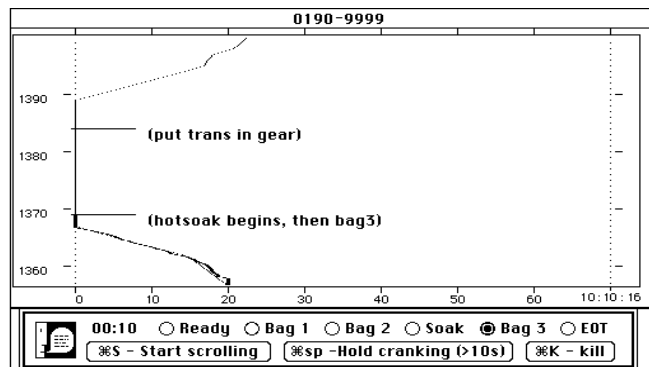

Figure 21
- 422 If the vehicle engine starts and continues to run, start the VDA trace scrolling by pressing <Command-S>, following the instructions at the bottom of the screen. See Figure 21.